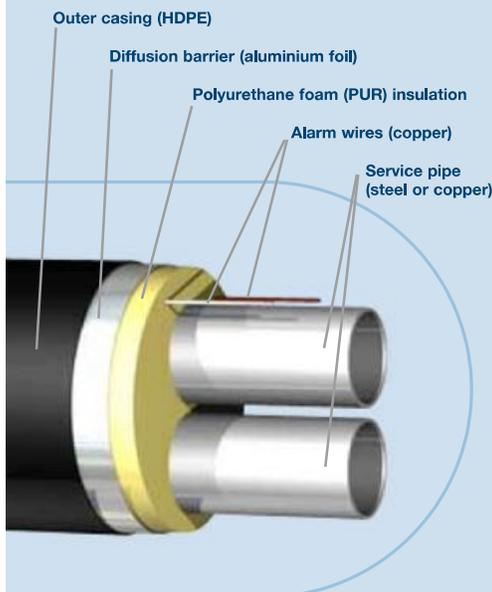

Figure 1 : Example of annual heat loss, with and without diffusion barrier
- Figure 1 – Oil Sands boundaries
Figure 1 below provides an example of the heat loss over a 30-year period, for lengths of single pipe and TwinPipe of comparable dimensions. The distance between the performance curves clearly shows that use of TwinPipe – with or without a diffusion barrier – significantly reduces heat loss.